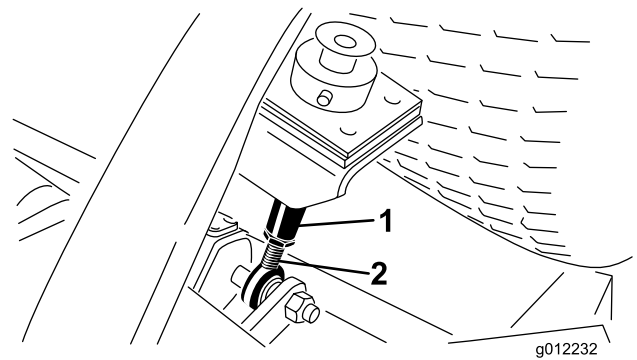

Figure 11
6. Loosen the jam nuts on the bottom of the height-of-cut rods (Figure 11).